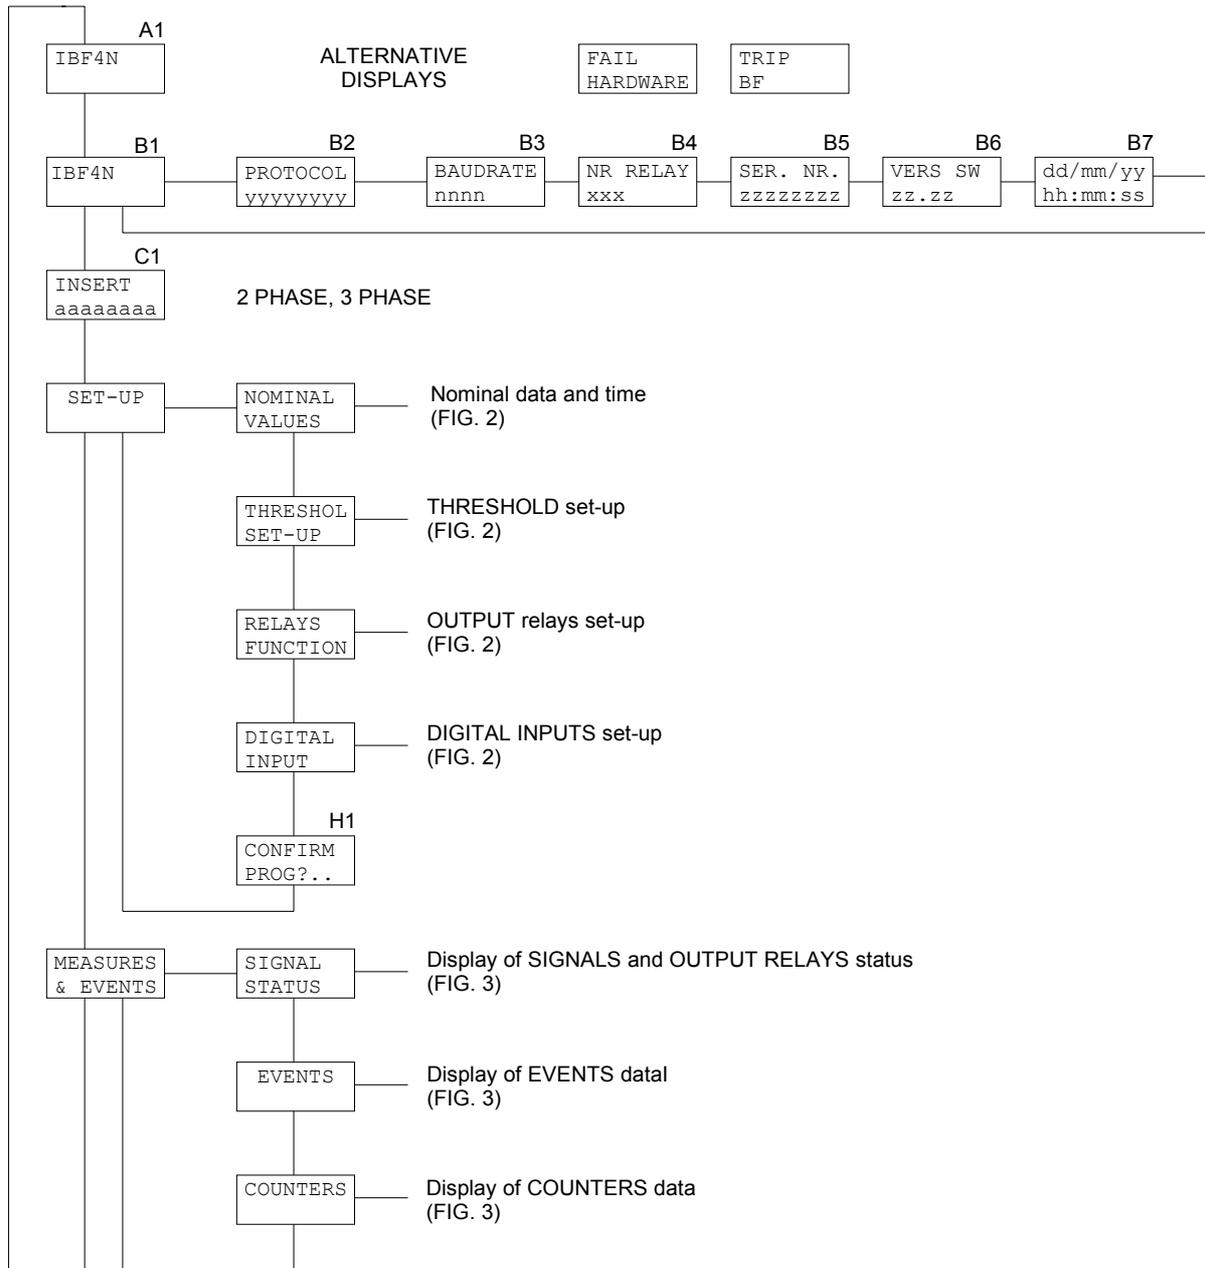

Figure 1
- the structure of the visualizations and their contents are showed in Figures 1, 2 and 3.
The programmable parameters are showed in Figures 1, 2 and 3 at the following references:
- 5) **CONFIRM** the new protection relay set-up at the visualization CONFIRM PROG? (Fig. 1, ref. H1) within 5 minutes depressing the push-buttons buttons [ENTER],  up to visualize **YES** and [ENTER] again to confirm.
- display on STANDARD MODE (Fig. 1, ref. A1 - par. 5.1)
The contents and the structure of the displayed messages are shown in figures 1, 2 and 3; the references A1, B1, B2 etc. identify specific displayed messages in the figures.
5.3 Address and time (fig. 1)
5.4 Protection insertion selection (fig. 1)**C1 - INSERTION SELECTION (programmable)**